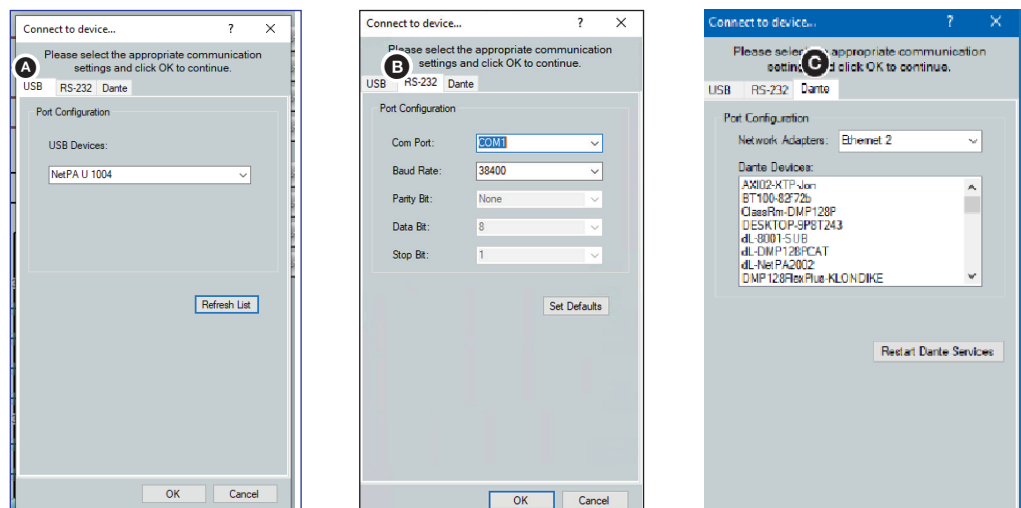

Figure 29. Connect to device... Dialog Boxes
- Click the **USB** tab in the dialog box (see figure 29, **A**).